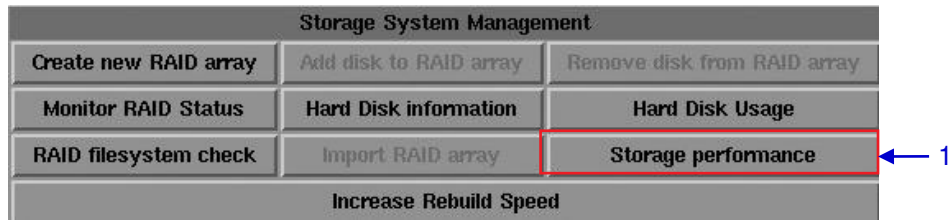

Figure 91 Storage System Management [Storage performance].
- 1** If the RAID array is being rebuilt during playback, the rebuild speed will slow down significantly. To resume highest rebuild speed after playback is finished, go to **Admin Panel** → **Login** → Click **Storage System Management** menu → Click **Increase Rebuild Speed** button (please refer to **Figure 91**). This will immediately set RAID array to rebuild at highest speed.